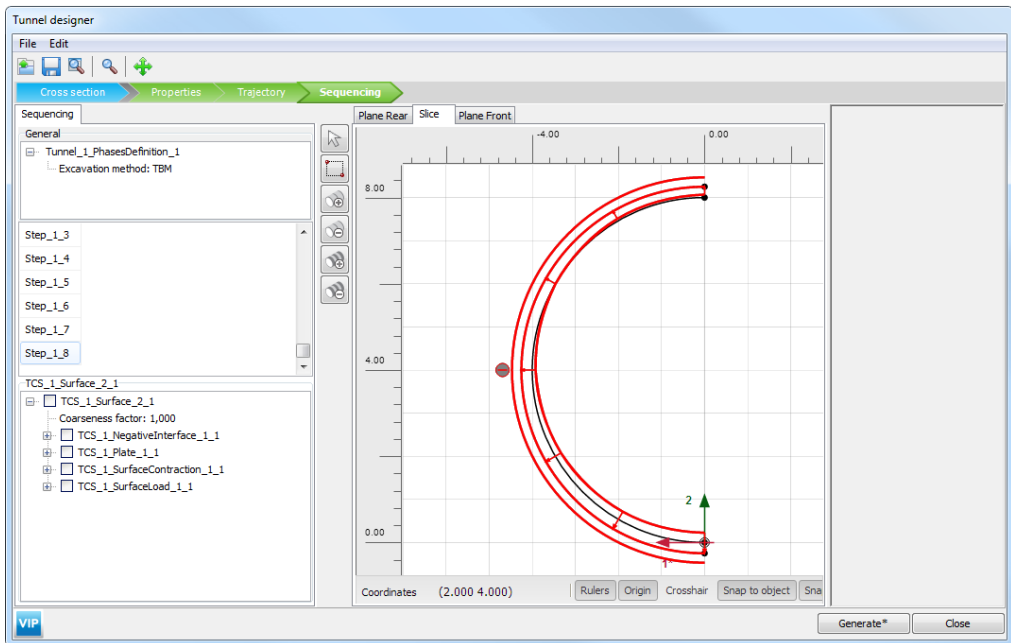

Figure 6.16 *Slice* tabsheet in the *Tunnel designer* Step_1_8
**Step_1_8, final lining:** Select the *Slice* tabsheet and select the outer surface. In the *Selection explorer*, deactivate the grout pressure and activate the negative interface. In the *Slice* tabsheet again, select the outer volume. Activate it, click the material and select the *Concrete* option from the drop-down menu (Figure 6.16).